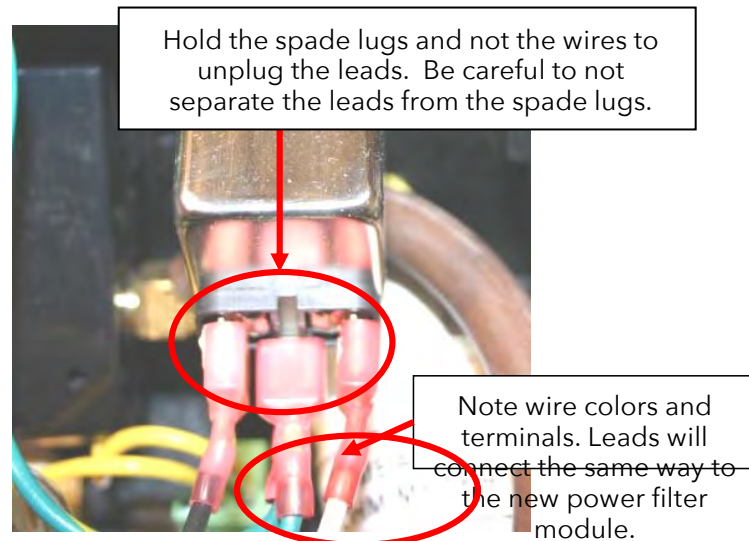

Figure 3. THE POWER FILTER MODULE ELECTRICAL LEADS.
3. After first observing their color and placement, disconnect the three electrical leads from the existing power filter module. Refer to Figure 3. These same leads will connect to the same terminals on the new power filter module. Whether you use your fingers or a small tool to remove the leads, be careful to not separate the spade lugs from the wires.